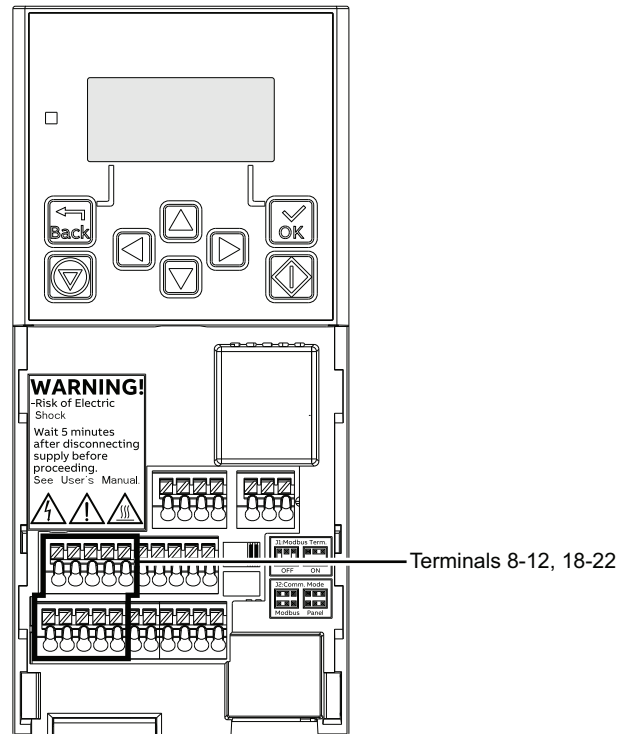

Fig. 56 — Digital Input Terminal Block Location on ACH180 VFD
3. Disconnect the DI1 input at Terminal 8 (see Fig. 56 for location of DI1).